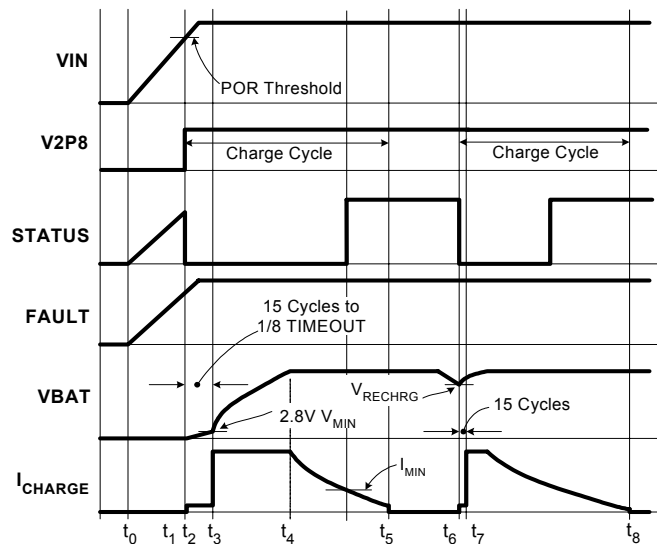

FIGURE 20. OPERATION WAVEFORMS
Figure 20 illustrates the typical signal waveforms for the linear charger from the power-up to a recharge cycle. More detailed Applications Information is given below.
LOW and a HIGH logic signal respectively. Figure 20 illustrates the start up of the charger between t_0 to t_2 .
A charge cycle consists of three charge modes: trickle mode, constant current (CC) mode, and constant voltage (CV) mode. The charge cycle always starts with the trickle mode until the battery voltage stays above V_{MIN} (2.8V typical) for 15 consecutive cycles of the internal oscillator. If the battery voltage drops below V_{MIN} during the 15 cycles, the 15-cycle counter is reset and the charger stays in the trickle mode. The charger moves to the CC mode after verifying the battery voltage. As the battery-pack terminal voltage rises to the final charge voltage V_{CH} , the CV mode begins. The terminal voltage is regulated at the constant V_{CH} in the CV mode and the charge current is expected to decline. After the charge current drops below I_{MIN} (1/10 of I_{REF} , see End-of-Charge Current for more detail), the ISL9203 indicates the end-of-charge (EOC) with the STATUS pin. The charging actually does not terminate until the internal timer completes its length of TIMEOUT in order to bring the battery to its full capacity. Signals in a charge cycle are illustrated in Figure 20 between points t_2 to t_5 .
After a charge cycle completes, charging is prohibited until the battery voltage drops to a recharge threshold, V_{RECHRG} (see Electrical Specifications). Then a new charge cycle starts at point t_6 and ends at point t_8 , as shown in Figure 20. The safety timer is reset at t_6 .
The trickle mode charge has a time limit of 1/8 TIMEOUT. If the battery voltage does not reach V_{MIN} within this limit, a TIMEOUT fault is issued and the charger latches up. The charger stays in trickle mode for at least 15 cycles of the internal oscillator and, at most, 1/8 of TIMEOUT, as shown in Figure 20.
The EOC current I_{MIN} sets the level at which the charger starts to indicate the end of the charge with the STATUS pin, as shown in Figure 20. The charger actually does not terminate charging until the end of the TIMEOUT, as described in the Total Charge Time section. In the ISL9203, the EOC current is internally set to 1/10 of the CC charge current, that is,